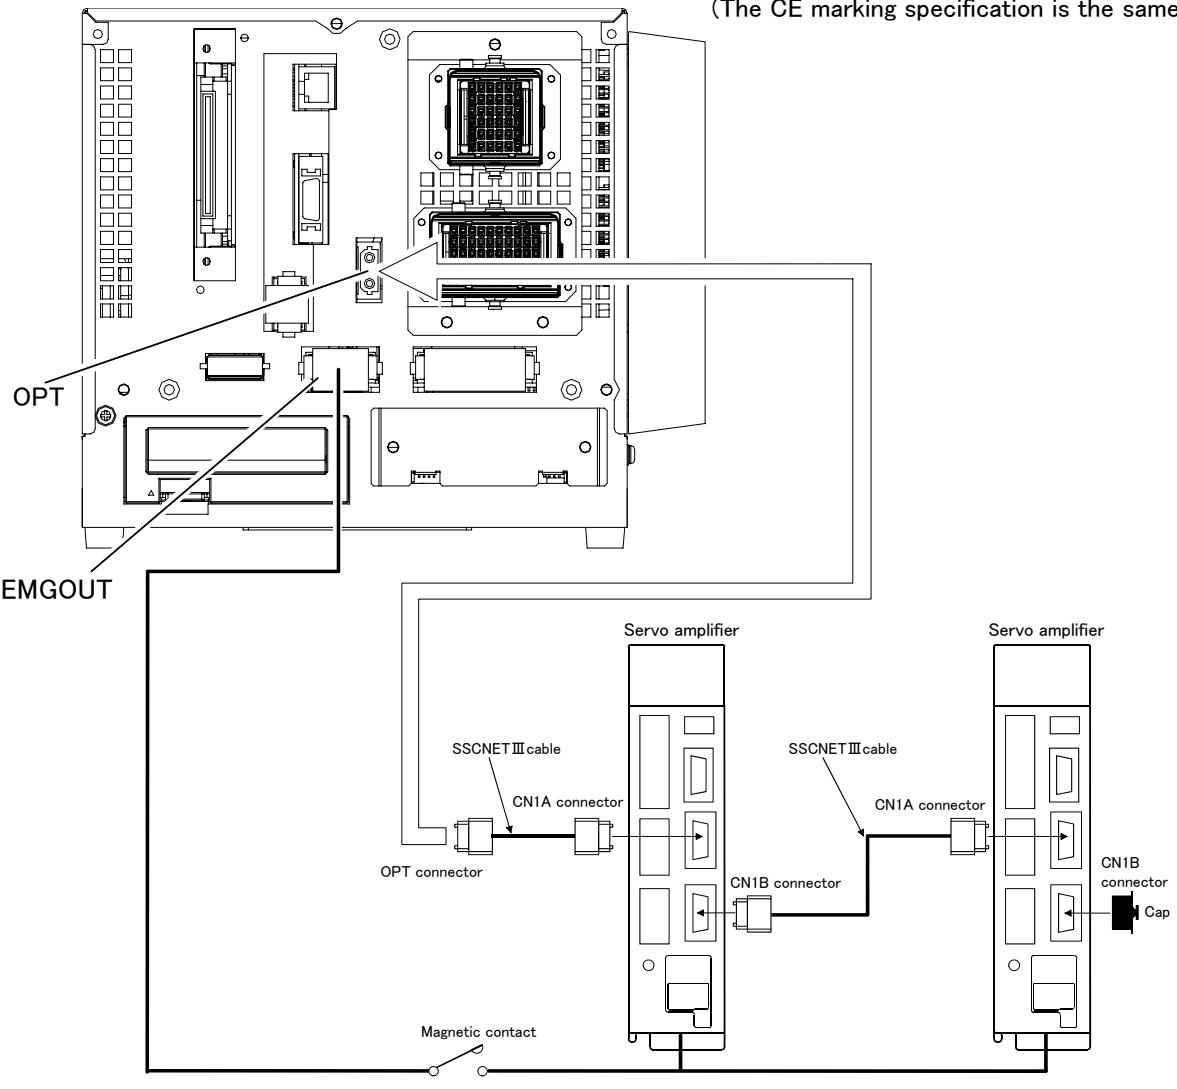

Fig.3-21 : Example of addition axis connection (CR1DA-700)
**Table 3-7** shows the connectors for additional axes inside the controller and Fig. 3-21 shows a connection example (configuration example). The magnet contactor control connector for additional axes, AXMC1, is designed to accommodate circuit connection with improved safety in Mitsubishi's industrial robot systems connecting additional axes.